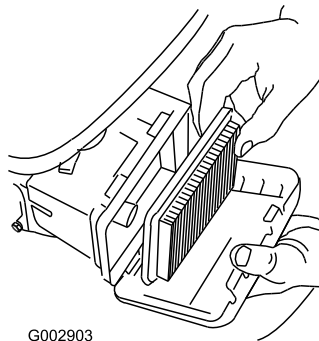

Figure 36
3. Remove the air filter (Figure 36).